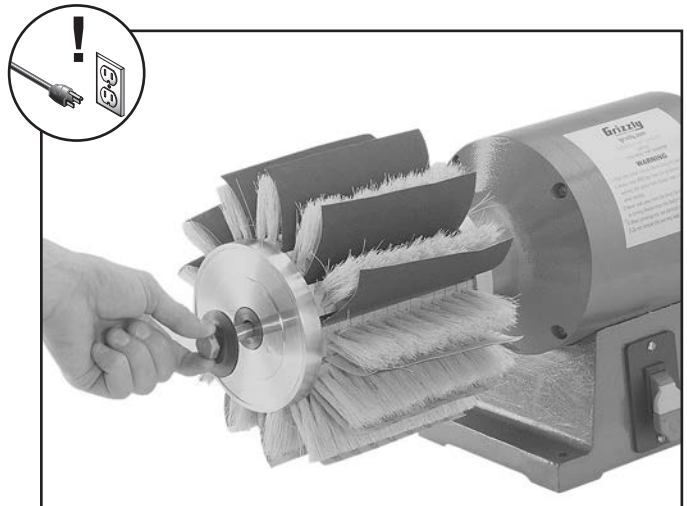

Figure 22. Sandpaper and brushes properly configured on the flap sander.
7. If a flap brush is worn out or damaged, replace it with a new one. Insert each brush into the lower end plate and between two sandpaper pieces attached to the same retaining bar, as shown in **Figure 22**.